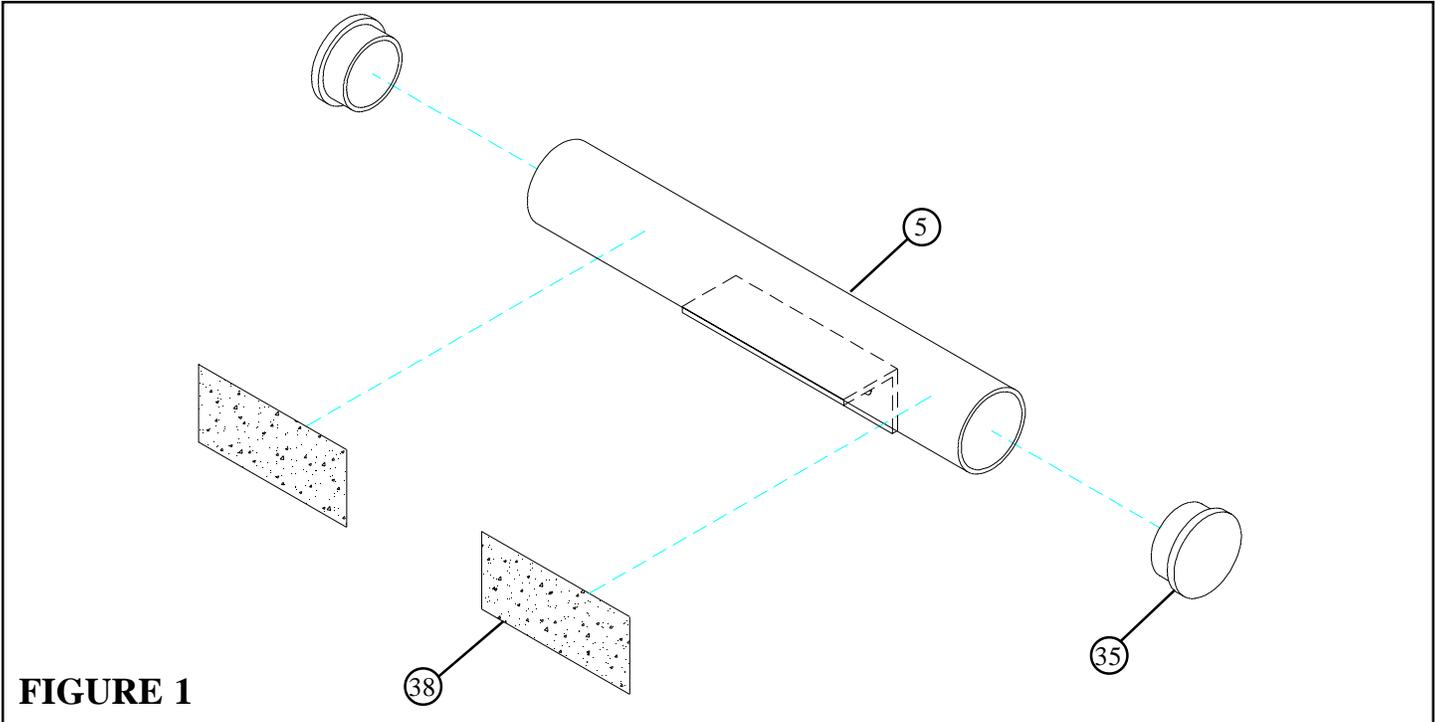

FIGURE 1
- Insert two 2-1/2" ROUND END CAPS (35) to the LOW ROW ATTACHMENT (5) as shown in FIGURE 1.
- Attach two NON-SKID STRIPS (38) to the LOW ROW ATTACHMENT (5) as shown in FIGURE 1.